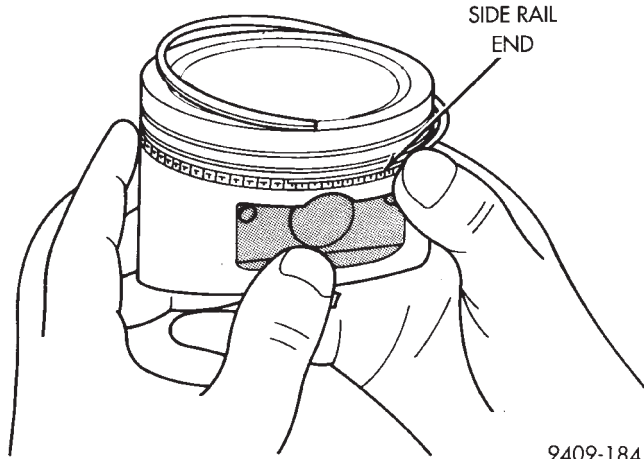
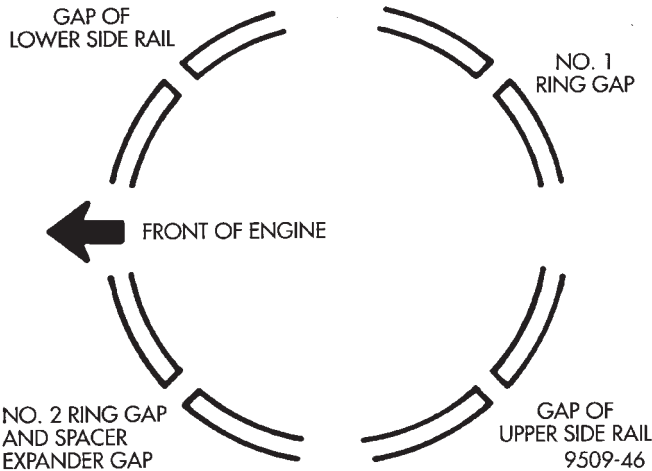

Fig. 8 Installing Side Rail
Fig. 9 Piston Ring End Gap Position
- (2) Install the side rail by placing one end between the piston ring groove and the expander. Hold end firmly and press down the portion to be installed until side rail is in position. **Do not use a piston ring expander** (Fig. 8).
- (3) Install upper side rail first and then the lower side rail.
- (4) Install No. 2 piston ring and then No. 1 piston ring.
- (5) Position piston ring end gaps as shown in (Fig. 9).
- (6) Position oil ring expander gap at least 45° from the side rail gaps but **not** on the piston pin center or on the thrust direction. Staggering ring gap is important for oil control.